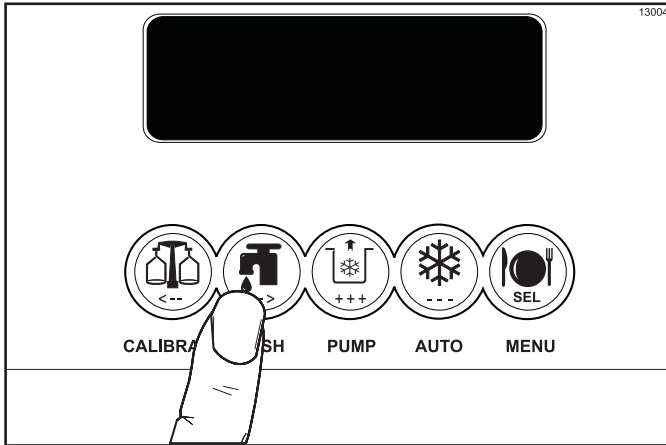

Figure 6-37
9. Press the WASH key. This will cause the cleaning/sanitizing solution in the freezing cylinder to contact all areas of the freezing cylinder. Allow the solution to agitate for 5 minutes. (See Figure 6-37.)